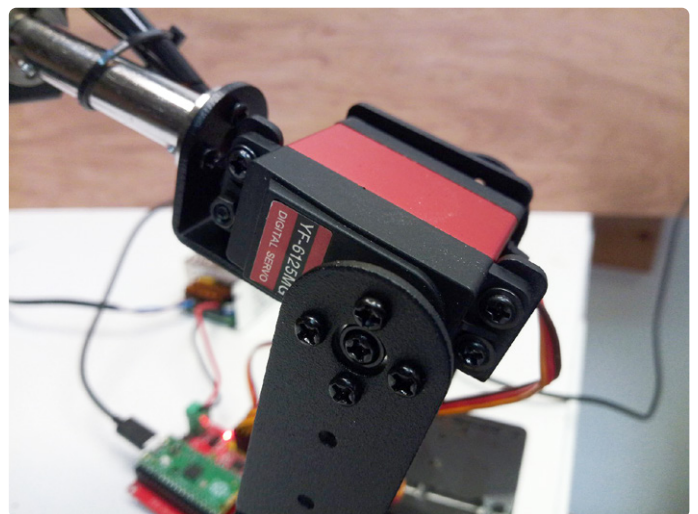

Figure 5: The YF-6125MG servos are powerful and should carry most of the weight of the arm.
- Use the red YF-6125MG servos first (**Figure 5**). The kit includes three of them (one spare), but the manual and video use them everywhere. These servos are the strongest and can carry the most weight, and therefore should go on the bottom part of the arm.